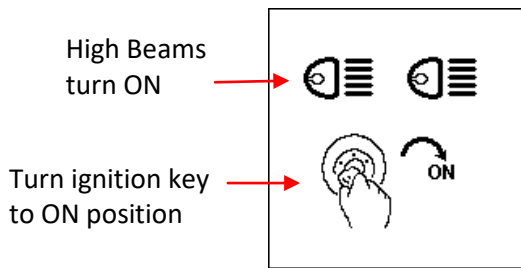
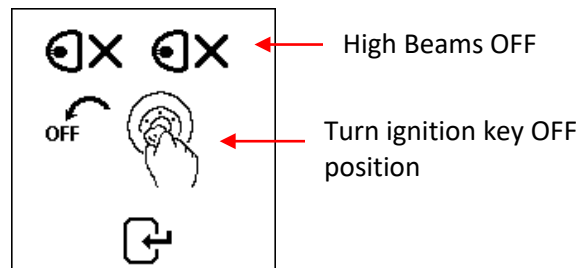

Fig.21
Fig.22
5. If the tester detected that the battery has surface charge it will prompt you to turn the ignition key to ON and switch on the headlights (Fig.21) to discharge the battery until it has reached to the next display that shows turn ignition OFF and headlights OFF (Fig.22) as display shown below and then press  to continue.